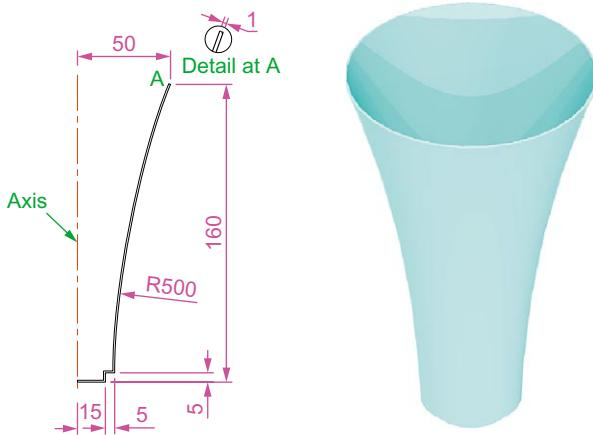

Fig. 18.19 Fourth example – 3D models
Fourth example (Fig. 18.19)
1. **Front.** Construct the polyline – left-hand drawing of Fig. 18.19.
4. **Isometric.** Render – right-hand illustration of Fig. 18.19.